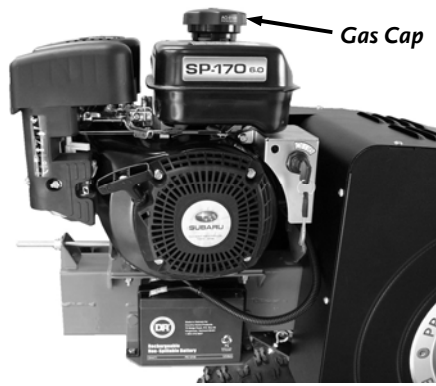

Figure 7
- Remove the Gas Fill Cap and fill the Gas Tank with fresh, unleaded gas (with a minimum of 85 Octane) to approximately 1" to 1-1/2" below the top of the fill neck to allow for fuel expansion (**Figure 7**). Be careful not to overfill. Install the Gas Fill Cap before starting the engine. See your Engine Owner's Manual for more detailed information.